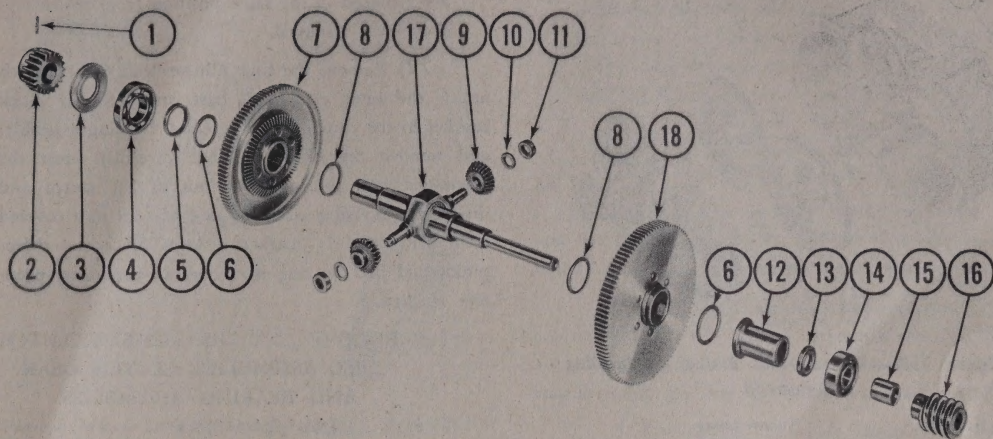

Figure 337 — Exploded View of Differential Assembly
(c) (See figure 337.)—Disassemble the differential assembly by drilling or filing off and driving out the cable drum drive pinion pin (1). Scribe the